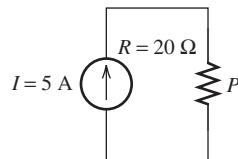

FIGURE P2.52 Circuit for Problem 2.52.
- 2.52 (A)*** Find the power, P , dissipated by the $20\text{-}\Omega$ resistor in Figure P2.52.